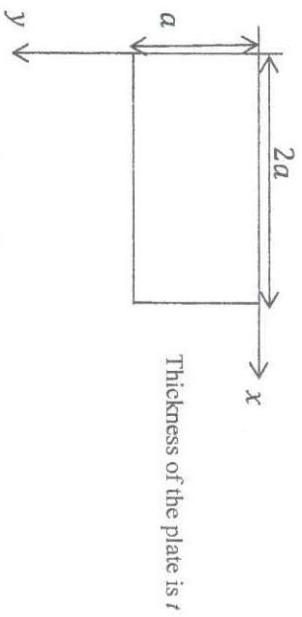

Figure Q2
- b) A thin rectangular plate of side dimensions '2a', 'a' and thickness 't' is shown in Figure Q2. The plate is simply supported along all four edges. It is subjected to a vertical downward load of intensity,